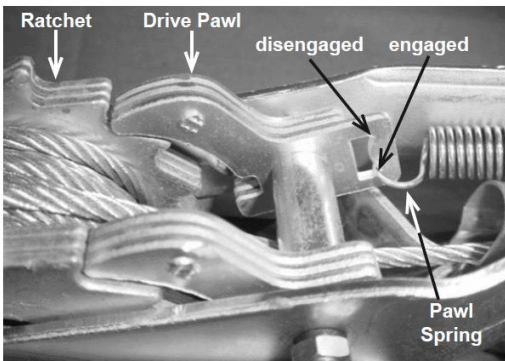

Fig.6 Drive Pawl Operation
1. Slide the Pawl Spring down to the engaged position, as shown in Figure 6.